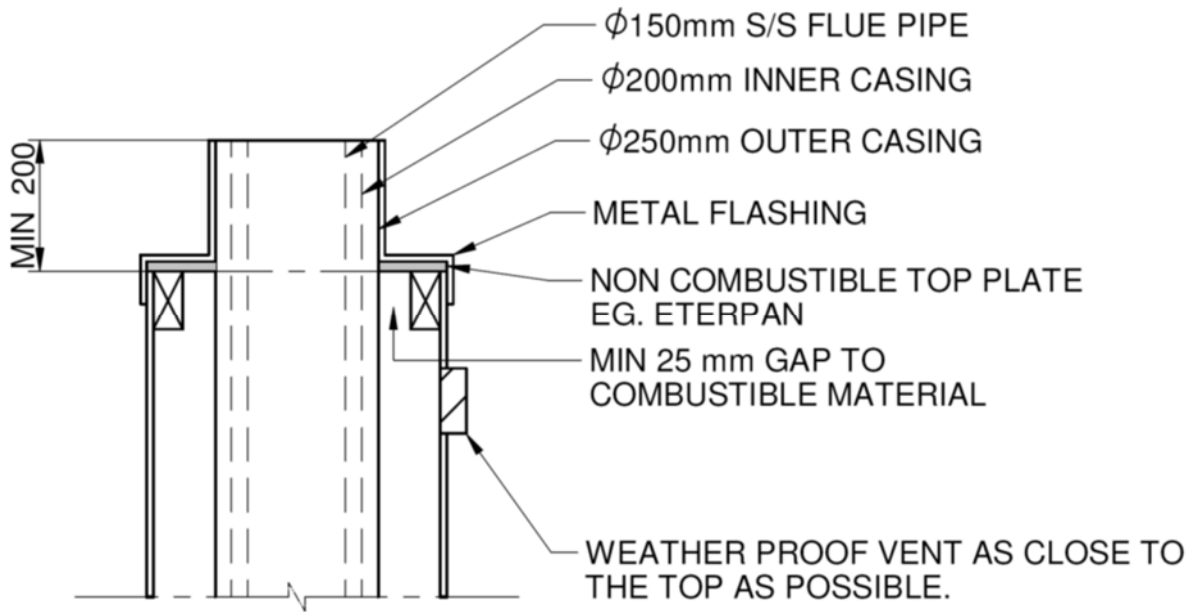

Fig. 8
20. Lower the assembled **flue pipe and seal and fix it to the flue socket** of the appliance. Use stainless steel screws. Lower the inner casing and engage it with the special adaptor spigot ring, repeat this step with the outer casing. See Fig. 8, 9 & 10 for flue pipe and casing lengths.